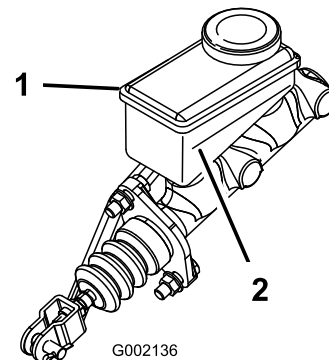

Figure 52
5. Look at the outline of the fluid level at the side of the reservoir (**Figure 52**).
- B. Add DOT 3 brake fluid to the reservoir until the fluid level is above the Minimum line (Figure 52).